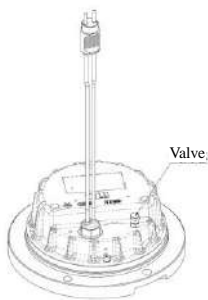

Figure 5-15
- Unscrew the valve cap at the lighting fixture bottom (see Figures 5-15 and 5-16).